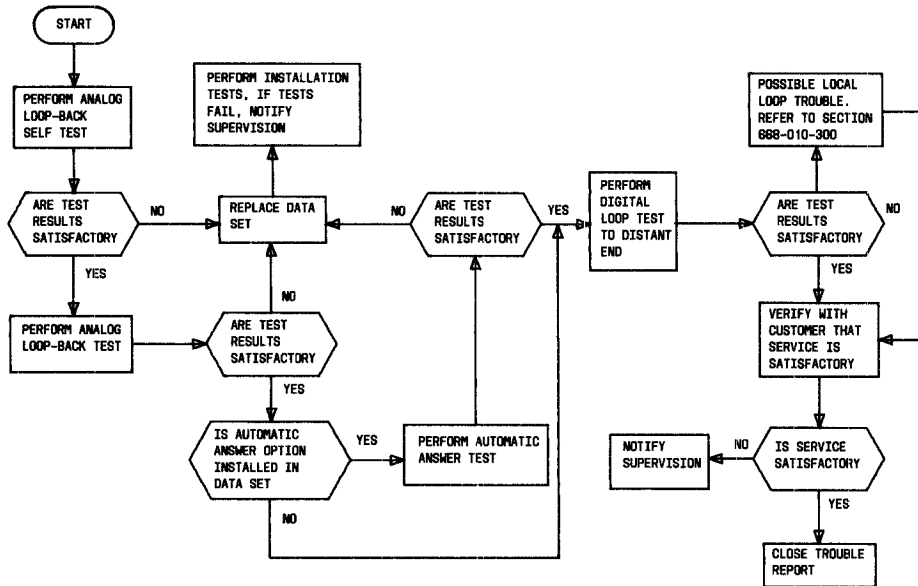

Fig. 3—Maintenance Test Sequence
**3.04** Refer to Fig. 3 or the sequence in which tests are to be performed by the telco employee at the data station. If the data set is replaced, the defective data set should be tagged with a tag describing the nature of the trouble, carefully packed and returned to a service center for repair. Verify that the replacement data set is equipped with the proper options before placing the data set in service.